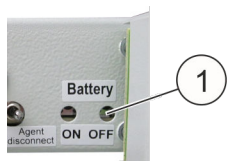

Fig. 83: Battery button
4. ➤ Actuate the battery button "Battery OFF" (Fig. 83 /1).